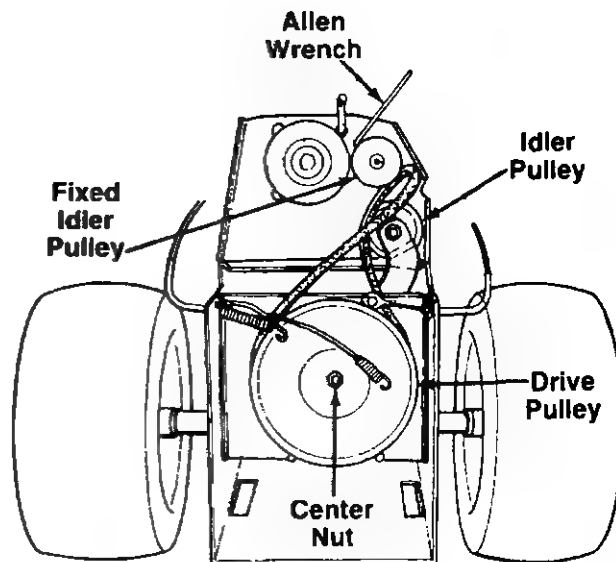

FIGURE 27.
4. Slip belt from between belt guard and fixed idler pulley as shown in figure 27.